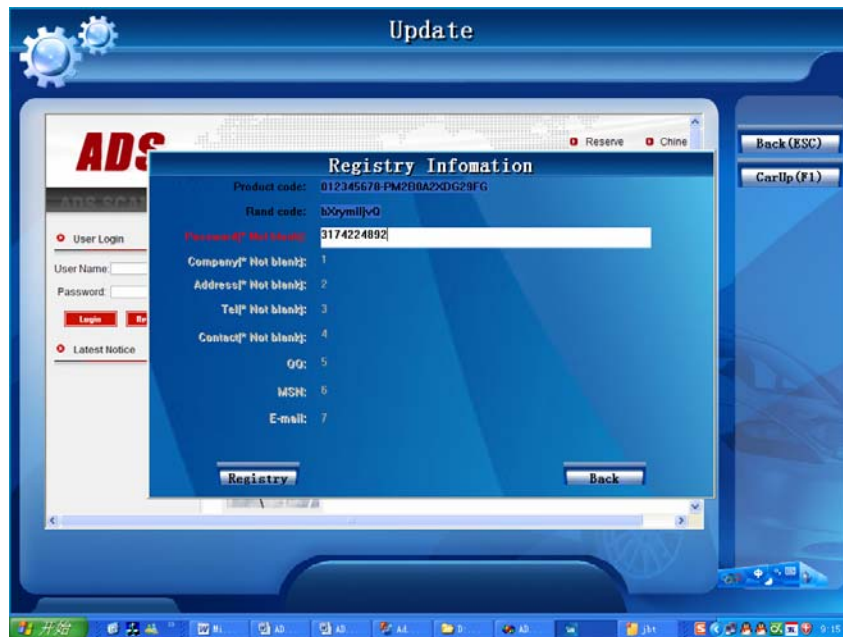

Figure-40
40. Click “CarUp”, appears figure-40.
41. **“Password” have to explore <http://www.adsscan.com> 获得** and fill in correctly. Click “Registry” and appears figure-40.